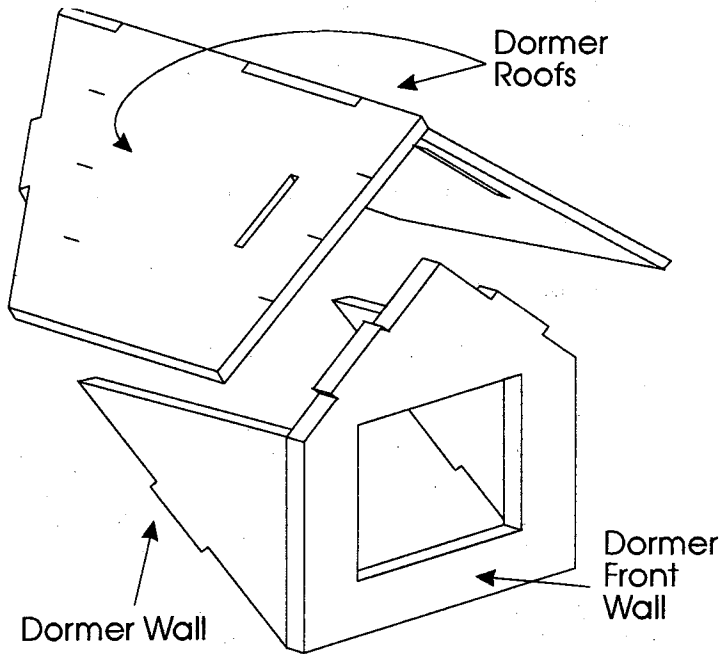

Figure 25
3. Assemble the Dormers as in Fig. 25.